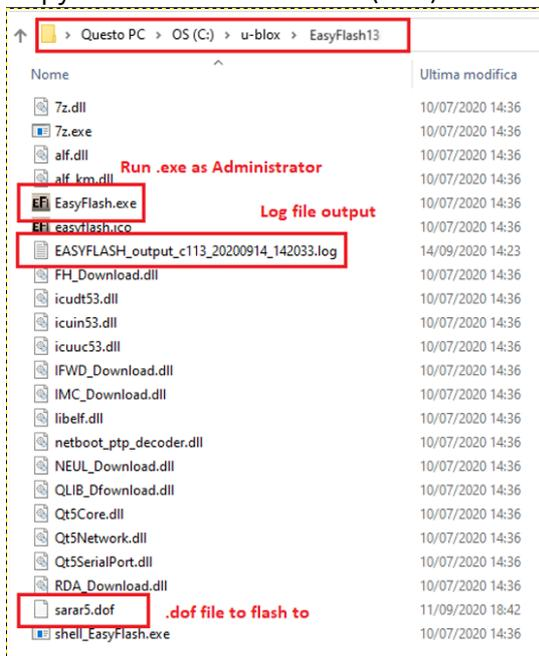

Figure 6: EasyFlash directory and file details
1. Copy the firmware flash file (.dof) to the directory where EasyFlash.exe is installed (Figure 6).